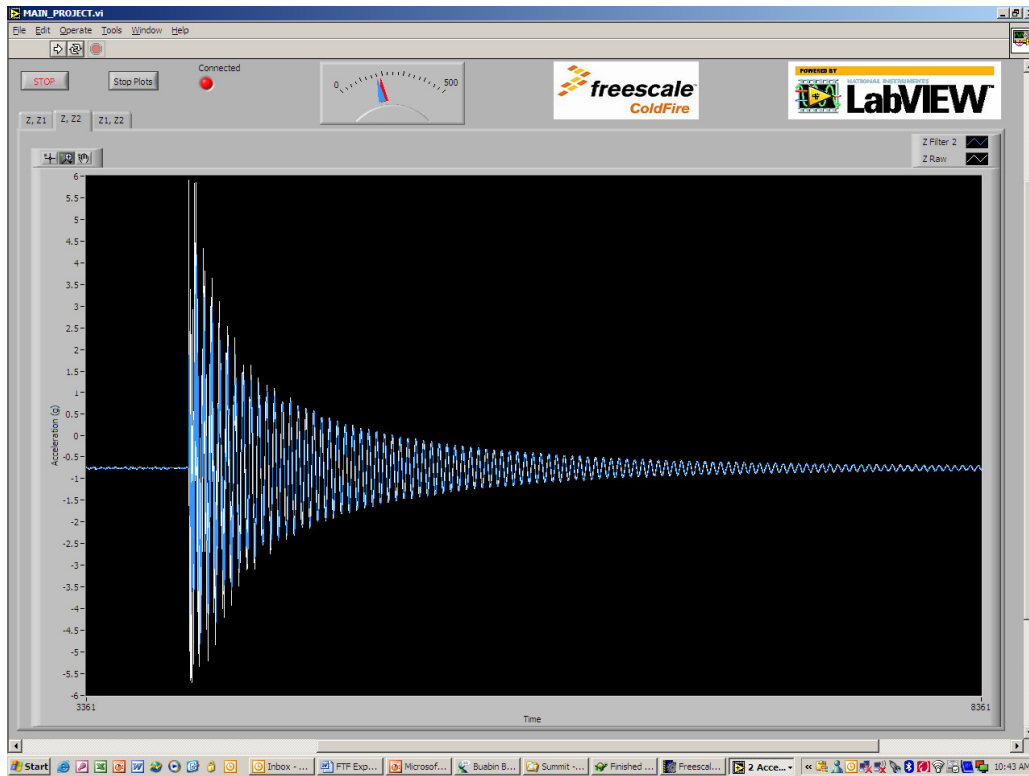

Figure 1b: Original and low pass filtered signals
- e. The tab labeled “Z, Z1” displays the raw signal and the high pass filtered signal (Figure 1b), with frequency content greater than 350 Hz